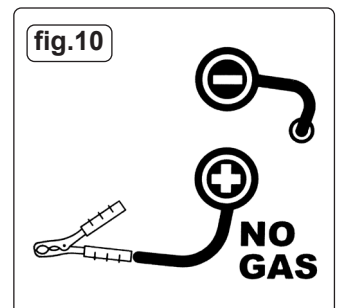

fig.10
- 6.1.1. Ensure that the welder is disconnected from the main power supply, open the side panel and check that the polarity is correctly set up for correctly set up for gasless operation The earth clamp wire must be connected to the POSITIVE (+) terminal and the power (torch) lead must be connected to the NEGATIVE (-) terminal as shown in fig.10.